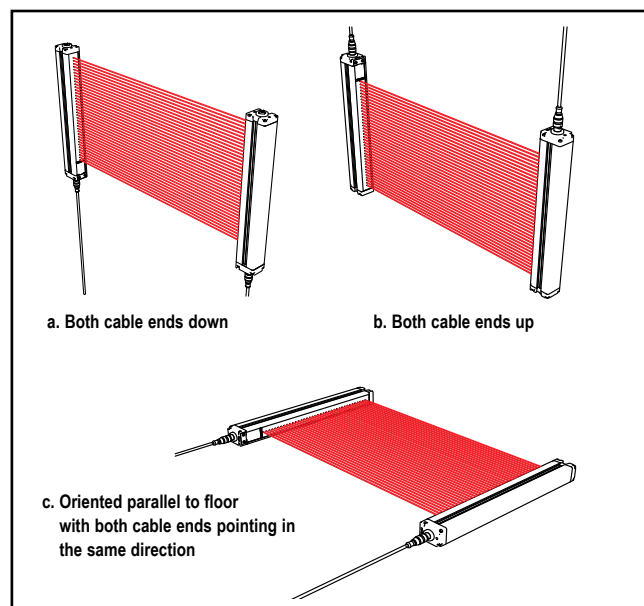
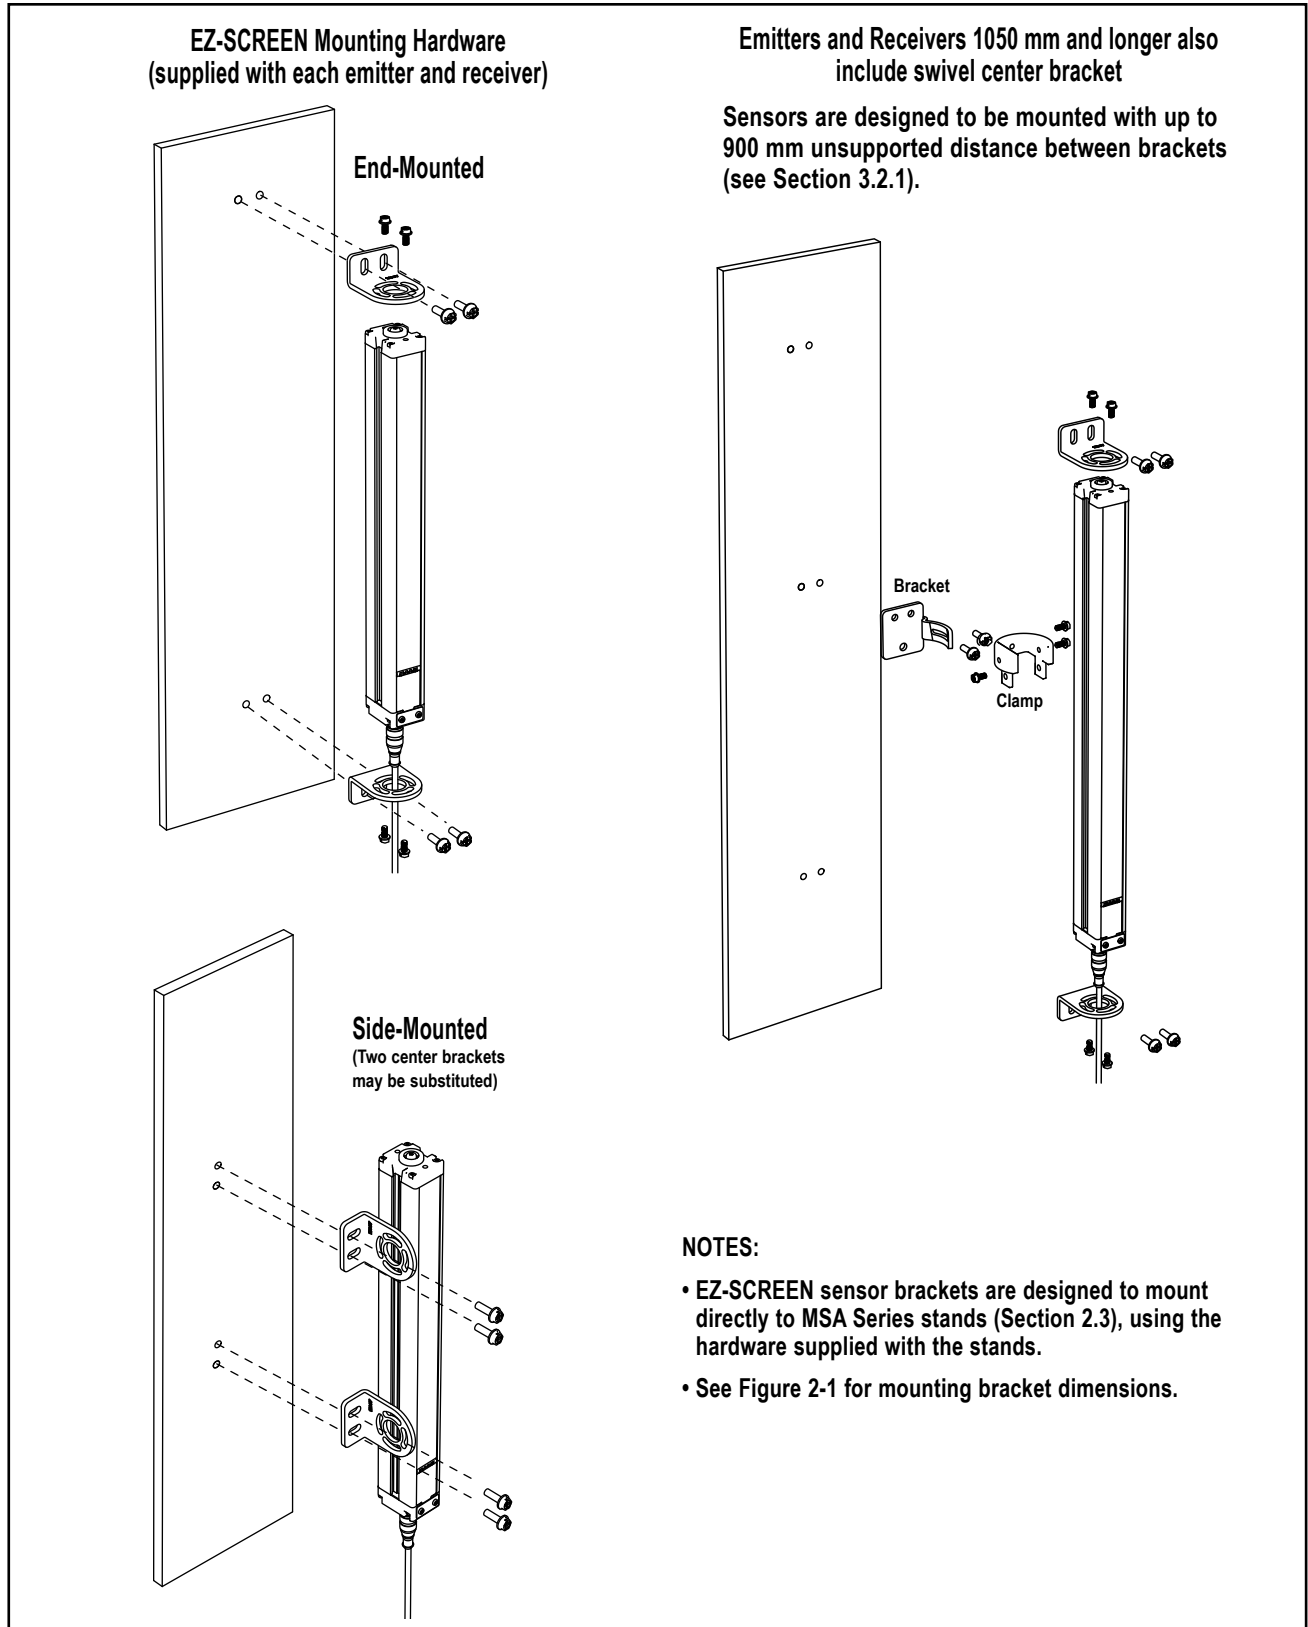

Figure 3-5. Examples of correct emitter / receiver orientation
Figure 3-9. Emitter and receiver mounting hardware
**Important: The connector ends of both sensors must point in the same direction** (see Figure 3-5 and warning, Section 3.1.3). Mount the emitter and receiver mounting brackets (see below) using the supplied M6 bolts and Keps nuts, or user-supplied hardware; see Figure 3-9.
**Center mounting brackets** must be used with longer sensors, whenever the sensors are subject to shock or vibration. In such situations, the sensors are designed to be mounted with up to 900 mm unsupported distance (between brackets). Sensors 1050 mm and longer are supplied with a center bracket to be used as needed with the standard end-cap brackets (see Figure 3-9).